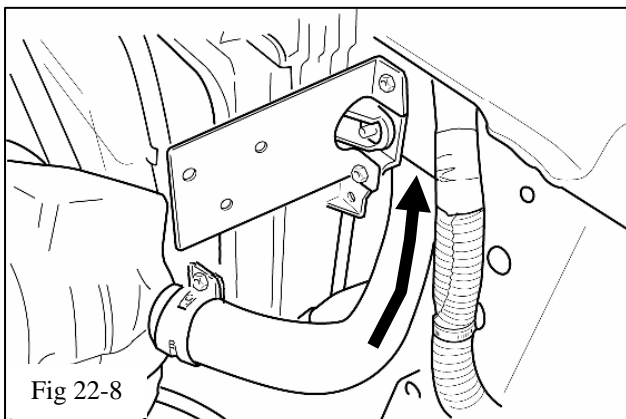

Fig 22-8
- (i) Thread the long end of the hose attached to the reservoir through the radiator mount until the short leg is pointing straight forward (Fig 22-8).